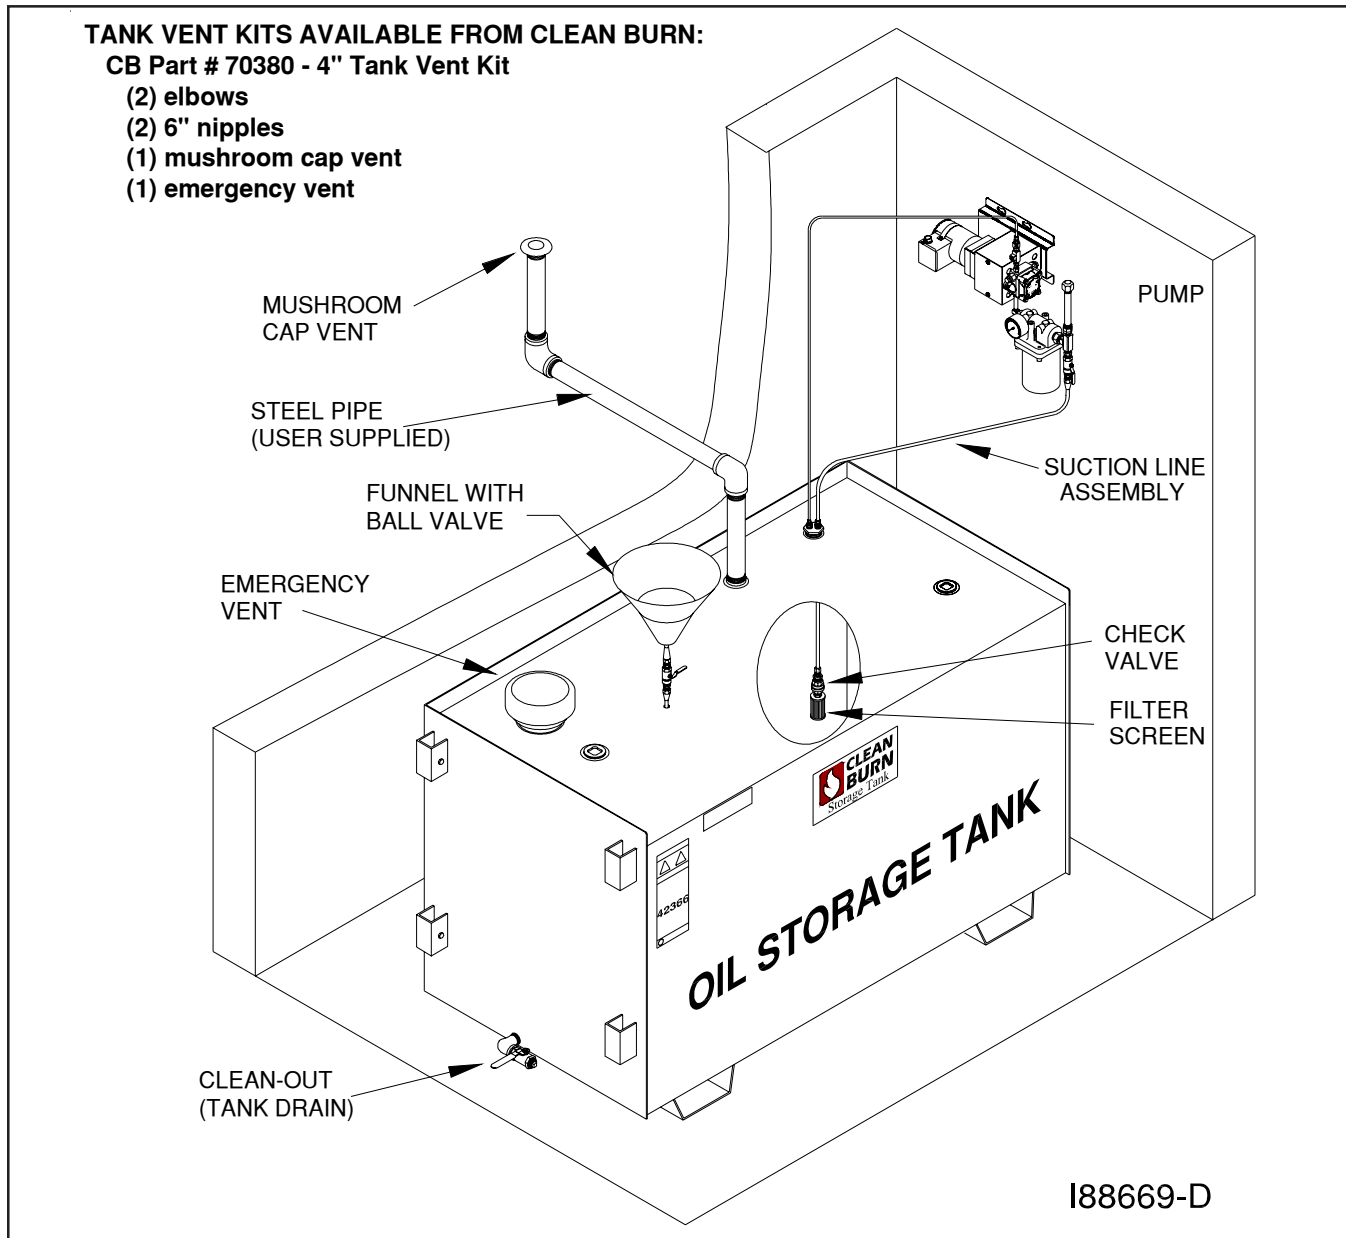

Figure 4C - Typical Metering Pump Installation with Inside Tank
Codes require that you install a tank vent (to the outside) and an emergency vent for your tank as shown in Figure 4C. **Tank Vent Kits** are available from Clean Burn; contact your local Clean Burn dealer to order. Be sure to check your local codes for any additional tank installation requirements, and adhere to the following installation guidelines:
- Install a length of minimum 50 mm (2") steel pipe (user-supplied) terminating outside with a proper vent cap as shown in Figure 4C. Consult local codes for information and requirements concerning the proper venting of oil storage tanks.
- Install an emergency vent as shown in Figure 4C. Contact your tank manufacturer for information concerning the proper emergency vent for your tank.